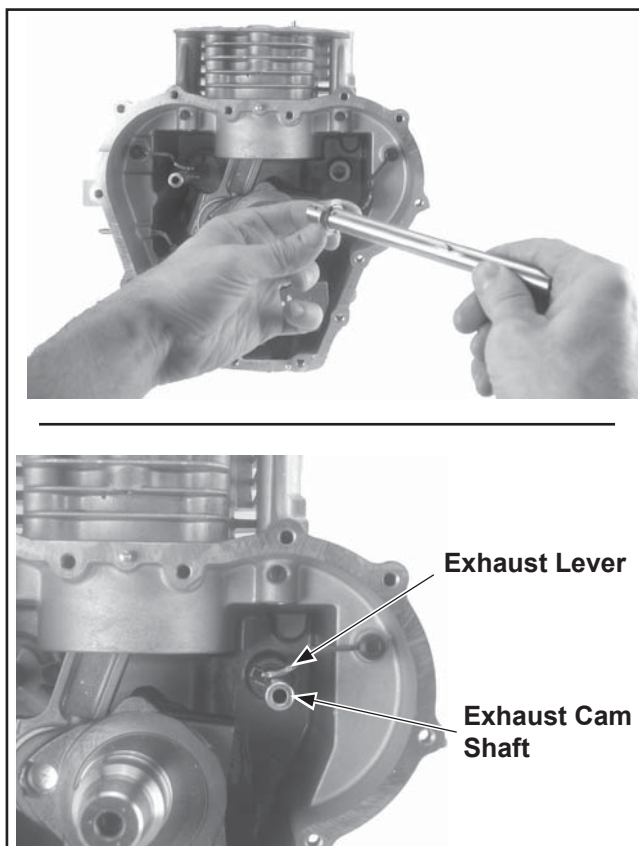

Figure 10-27. Exhaust Cam Shaft Installation.
2. Apply a dab of grease to the formed groove in the thrust washer. Slide the washer onto the cam shaft so the short drive pin is seated in the groove. The grease will hold the washer in position. Pivot the exhaust cam lever toward the push rod bore, then insert the cam shaft into the counterbore of the crankcase. Make sure the pin stays in the groove of the thrust washer. See Figure 10-27.